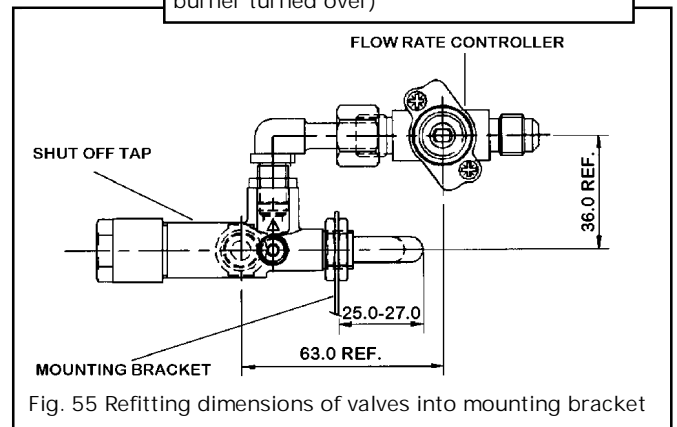

Fig. 55 Refitting dimensions of valves into mounting bracket
13.11.8 If fitting a new tap, remove the hexagonal nut at the mounting bracket end of the old tap and fit to the replacement tap. Prior to refitting the elbow to the shut-off tap, apply an approved sealant to the elbow thread. Refit in the reverse order. Refer to figure 55 to ensure accurate refitting dimensions of the valves and subsequently into the mounting bracket. When refitting, make sure that the tap spindle is in the correct relationship relative to the control pivot bracket. Rotate the pivot bracket fully clockwise. The tap spindle should "bottom out" (i.e. the tap should be fully open) after the pivot bracket has actuated the ignition microswitch but before it has pushed the microswitch leaf against the microswitch body.